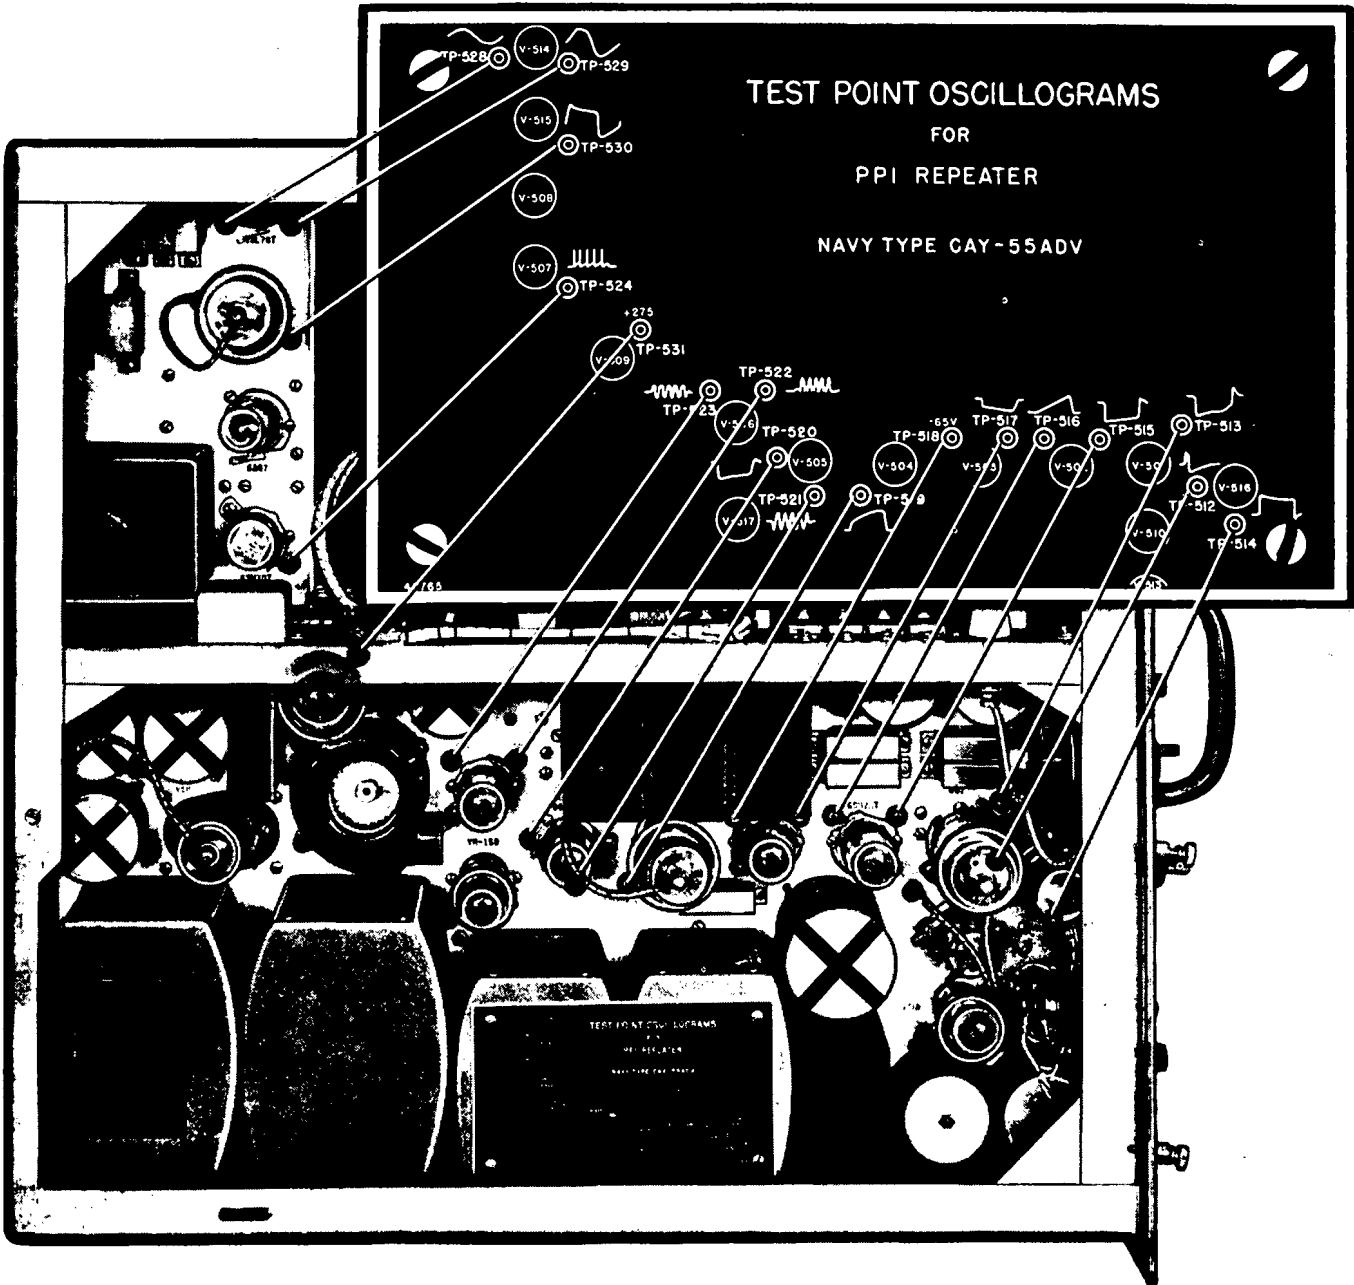

Figure 7-17. PPI Indicator Test Points
(1) Make a visual inspection to see that the fuses are not blown and that the tubes are in their proper places and their plate caps connected. Check filament continuity by turning on the PPI Indicator and noting whether all of the tubes light. Next check the voltage at TP-531 and measure the bias at TP-518. See Fig. 7-17. If it is not -65 volts, adjust potentiometer R-564 until -65 volts is read on the meter. Observe the trigger sync pulse by connecting a test oscilloscope between terminal 514 and the frame of the set. Measure the trigger voltage from the transmitter. If it is found to be at least 10 volts peak, not more than 79 volts, and at the proper repetition rate, adjust the INTENSITY control on the front panel in an attempt to get a spot on the cathode ray tube. If no spot or trace appears, adjust the coarse intensity control, R-553. See Par. 41b of this section. If a spot appears at the center of the PPI tube, the gate may be operating satisfactorily, but the sweep circuits may be inoperative. Notice if the same conditions exist on all positions of the RANGE SELECTOR switch.
(2) Check to see whether the gate circuits are functioning by observing the pattern on the test oscilloscope when it is connected to TP-514. See Fig. 7-17. The waveform should agree with that shown in Fig. 7-13. If the previous adjustment of the INTENSITY controls did not cause the tube to light, and the above procedure proved that the gate *was* functioning, remove the socket from the cathode ray tube and place the test scope probe in the gate pin of the socket and observe whether the unblanking pulse is reaching the socket. Check the bias on the cathode ray tube by reading the voltage from the cathode pin of the socket to ground, at the same time rotating intensity potentiometer R-553. If the voltage is not present, or does not vary with rotation of the potentiometer, an open